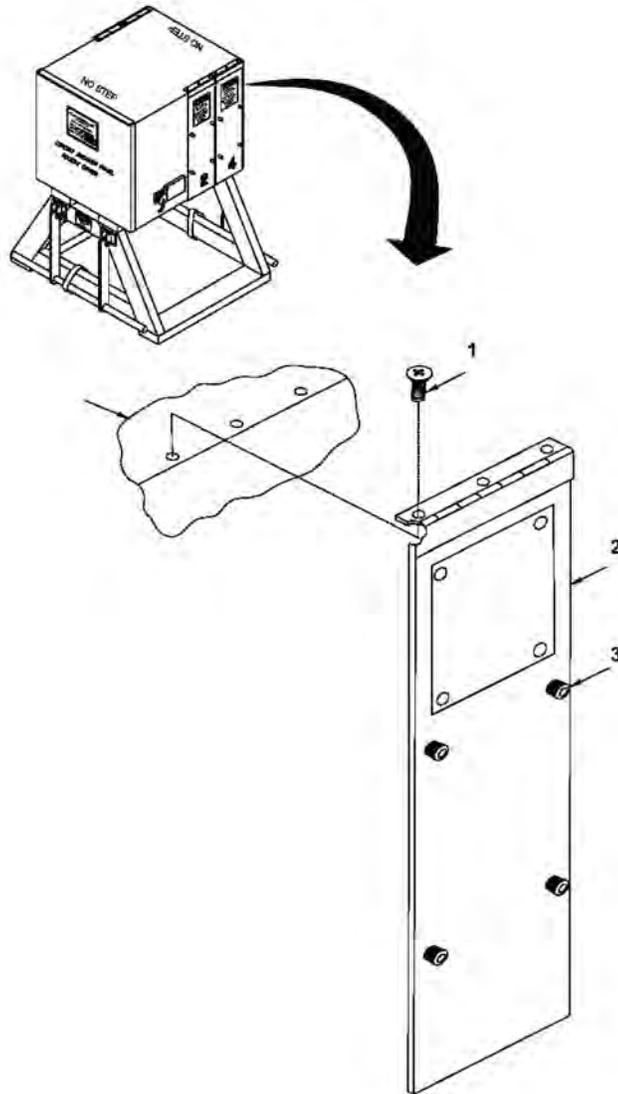

Figure 1. Side Access Cover.
3. Remove side access cover (Figure 1, Item 2) from PDB (Figure 1, Item 4).
4. Position side access cover (Figure 1, Item 2) on top of PDB (Figure 1, Item 4) and align holes in hinge with holes on PDB.
5. Install three screws (Figure 1, Item 1) to secure side access cover (Figure 1, Item 2) on top of PDB (Figure 1, Item 4).
6. Close and latch four fasteners (Figure 1, Item 3) on sides access cover (Figure 1, Item 2) by turning them clockwise.